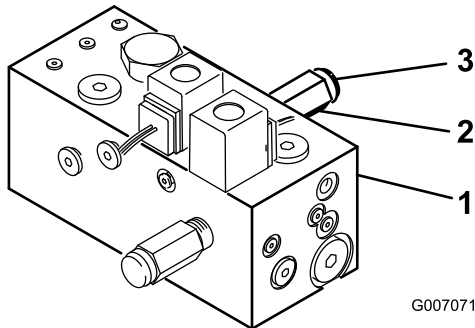

Figure 10
1. On rear side of manifold, remove cap from the relief valve with an allen wrench (Figure 10).